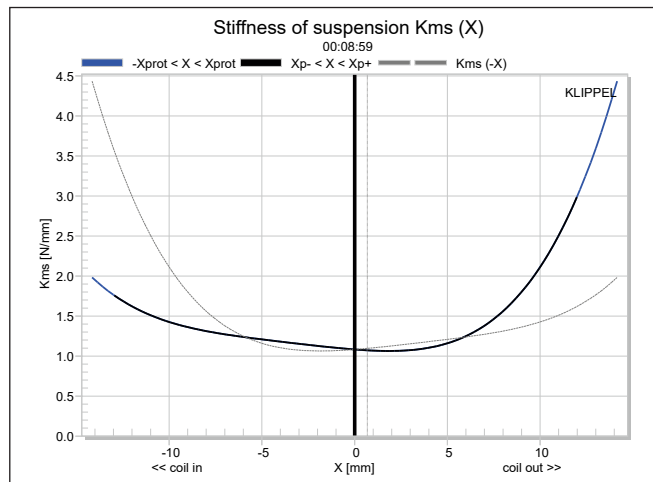
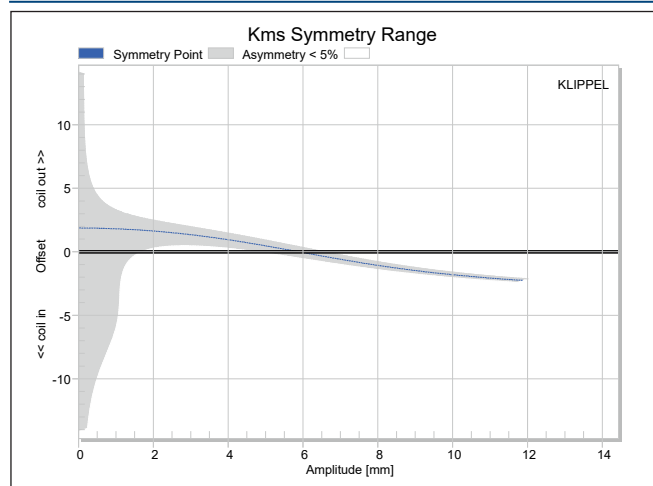

Figure 7: Klippel analyzer mechanical stiffness of suspension Kms (X) curve for the Scan-Speak Ellipticor 21WE/4542T00
Figure 8: Klippel analyzer Kms symmetry range curve for the Scan-Speak Ellipticor 21WE/4542T00
Figure 7 and Figure 8 show the Kms(X) and Kms symmetry range curves for the 21WE/4542T00. The Kms(X) curve is definitely not as symmetrical in both directions as the BI curve, and changes from coil-out to coil-in at about 6 mm and is about 0.67 mm at the physical Xmax position, which is not critical.